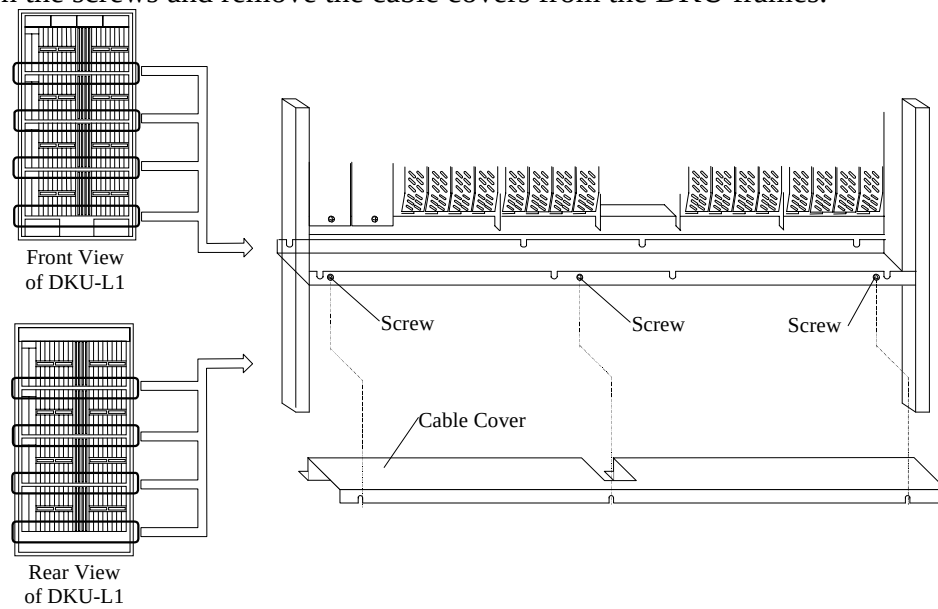

Fig. 3.11.10-2 Removal of Cable Covers
- c. Refer to Fig. 3.11.10-3 and Fig. 3.11.10-4. Connect the DEV interface cables to the sub-edges on the FSW PCBs in the HDU box.